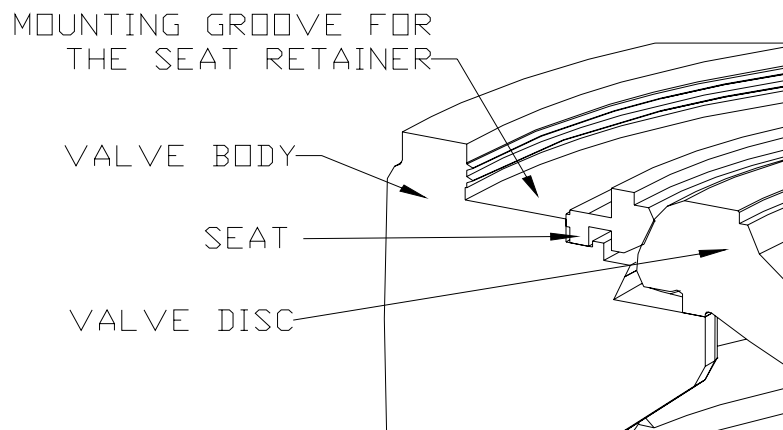

Fig. 3-1 VF-910
- b. Insert the seat to the seat-mounting groove. The seat is somewhat floating because there is an interference of the seat (Fig. 3-1/3-2/3-2).